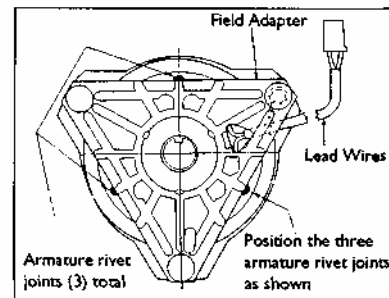

figure 1
2. Locate the three rivet joints which fasten the leaf springs v, to the armature, (figure 1)
3. Rotate the pulley until these rivet joints are located midway along the edge of the triangular field adapter, (figure 1)